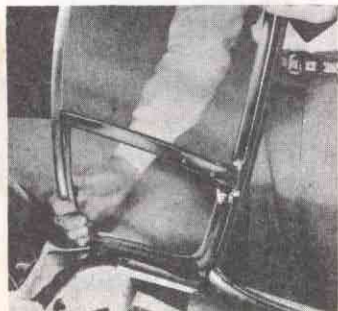

Fig. 34—Inserting Front Extension
1. Open door and insert offset extension on front bottom edge of window frame into slot in upper forward door area (fig. 34).